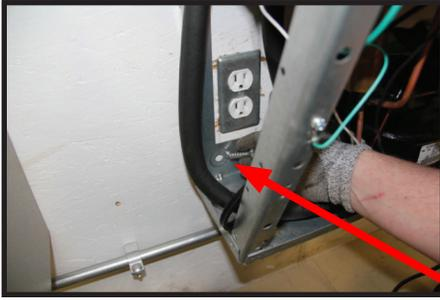

FIG. 2
- 5) Secure cooler frame to wall by installing (2) screws and washers (not supplied) in lower holes. (See Fig. 2, Pg. 5). Make sure the screws engage in a structural member.